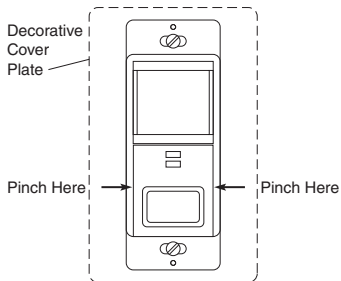

Figure 3 - Removing Control Panel Cover
2. Pinch control panel cover at the indicated points as shown in Figure 3. Pull to remove cover.